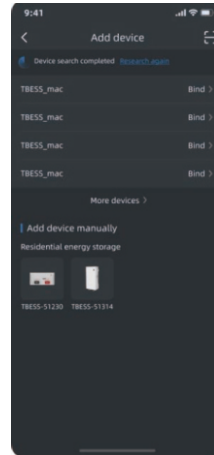

Figure 2
- 2) Figure 2: The list of found devices is displayed. Select the device to be added and click "Bind". If no device is found, click "Research again" or use another method.